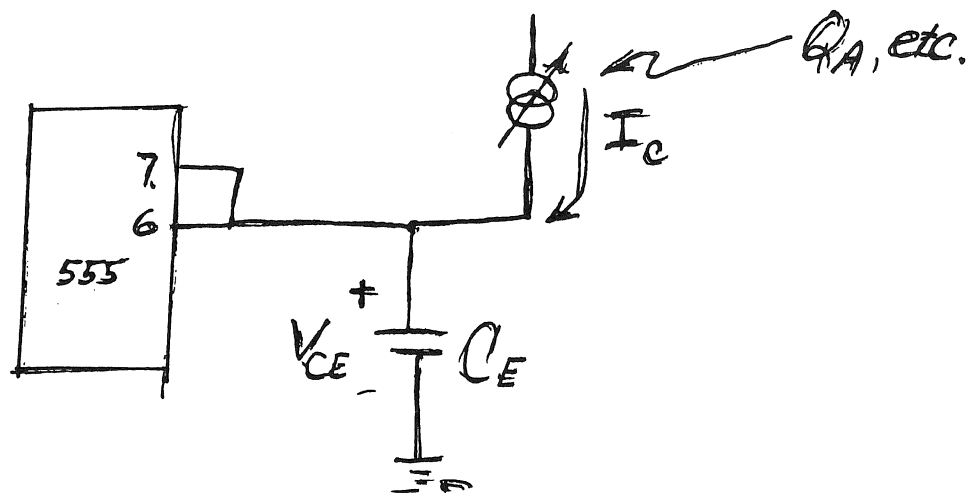

FIGURE 3-11
3.4.6.4 Pulse Width Modulation - To understand the operation of the PWM Circuit (555), let us assume that at time zero (T(0)) the capacitor is at zero volts and the discharge transistor within E(2) (555) is ON. Pins 6 and 7 (threshold and discharge) are both tied to C(E) so the current from Q(A) is bypassed to ground and V(CE) stays at Zero (see Figure 3-11).